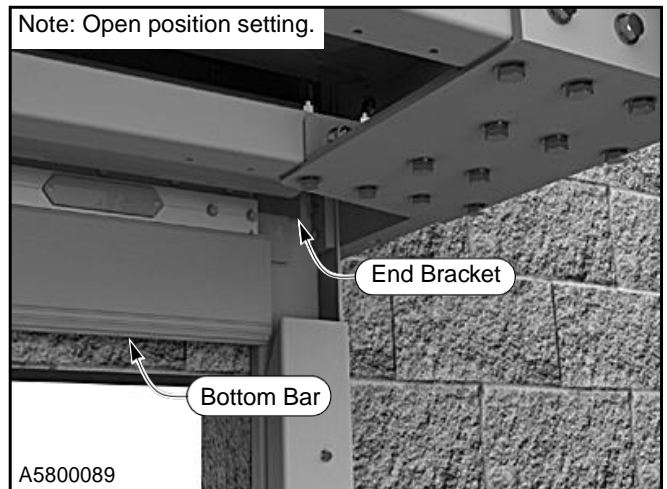

Figure 52
1. Open the door using jog mode. Move the door panel until the bottom bar is set as shown in Figure 52.